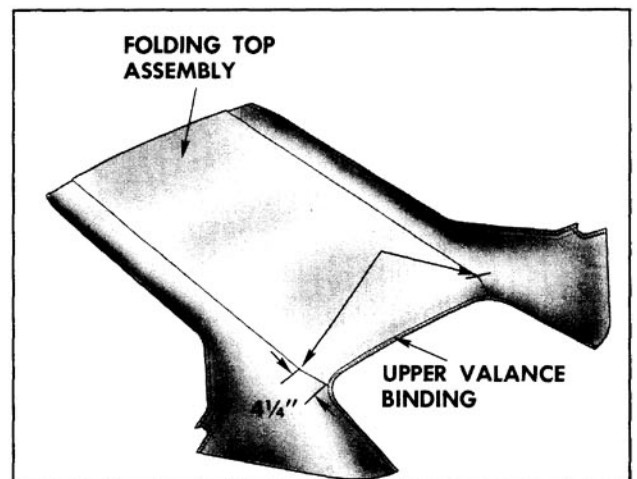

Fig. 16-447 Marking Top Material
22. Using a pencil, mark top material (mark should be approximately 1/2" in length) at deck seam 4-1/4" from edge of top material upper valance binding. (Fig. 16-447)
3. Using a pencil, mark top material (mark should be approximately 1/2" in length) at deck seam 4-1/4" from edge of top material upper valance binding. (Fig. 16-447)
14. After cables have been filtered or pulled through hold-down pockets in top material, securely install front and rear cable attaching brackets to side roof front and rear rails. (Fig. 16-447)